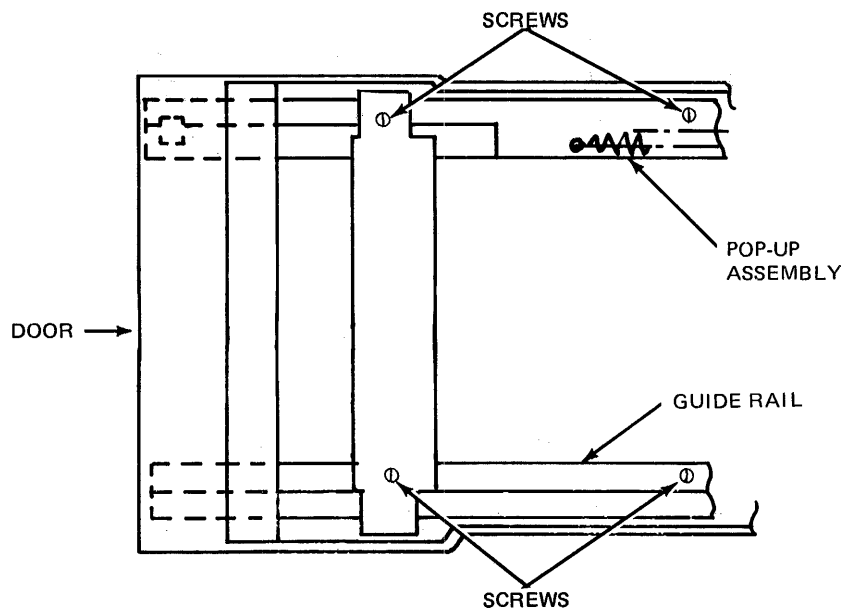

Figure 4-18 Removing the Pop-Up Assembly and Guide Rail
- b. Loosen the pop-up assembly by removing the two screws that fasten it to the base frame (see Figure 4-18).
- b. Remove the two screws that fasten the guide rail to the frame (see Figure 4-18).